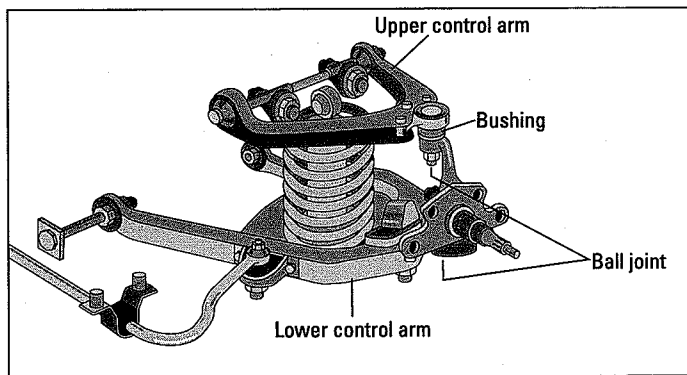

Figure 11-3:
- ✔ **Double-wishbone suspension:** Also known as *short-long arm suspensions*, these systems use a short upper control arm and a longer lower control arm that hold the wheel to the frame. The control arms allow the wheel to move up and down, kind of like a hinge allows a door to swing open and closed. There are rubber bushings at the inboard end of the control arms, and a ball joint at the outboard end of the control arm allows the wheel to rotate and pivot. (See Figure 11-3.)
Control arms are sometimes referred to as *A arms*, *A frames*, *I arms*, or *links* (refer to Figure 11-3). Ever hear the term *multi-link suspension*? That means that more than one link is holding the wheel to the frame or body.